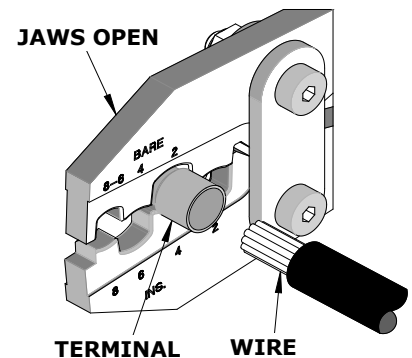

Figure 1
2. Partially close the tool to hold the terminal securely in place. See Figure 1.